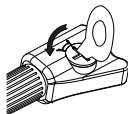

fig.1
- Turn the battery cover 45° counterclockwise with the spanner (fig.1), then remove it